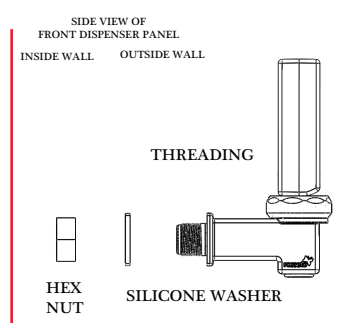

FIGURE A-1
1. Detach faucet from dispenser by unscrewing hex nut from inside tank (Figures A-1 & A-2)
3. Install the faucet body onto body of dispenser. Place silicone washer over threading of faucet body **MAKING SURE SILICONE WASHER IS FLUSH WITH BACK OF FAUCET BODY** (Figures A-1 & A-2)